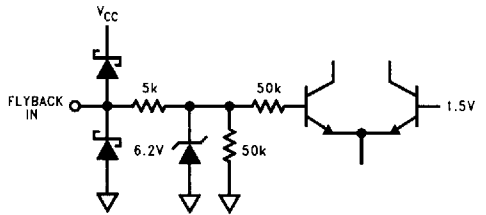

FIGURE 13
**Pin 18 - FLYBACK IN:** Input pin for phase detector 2. For best operation, the flyback peak should be at least 5V but not greater than  $V_{CC}$ . Any pulse width greater than 1.5  $\mu$ s is acceptable. See *Figure 13* for the input schematic.